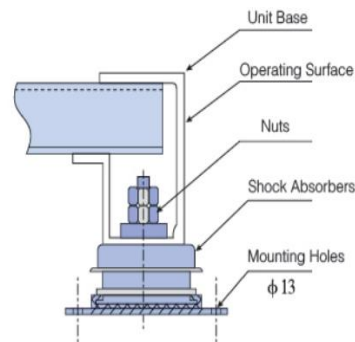

Figure 6
- 3, When adopting the fixing method of figure 6, the anchor bolt hole for shock absorbers must be reserved on the foundation. Kingair can provide corresponding shock absorbers (optional) .